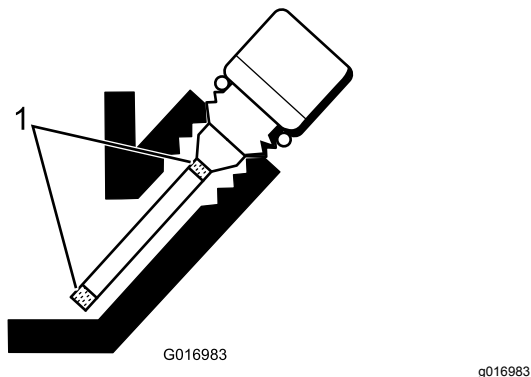

**Figure 29**
1. Park the machine on a level surface and clean the area around the oil-level gauge (Figure 29).
2. At the rear of the machine, place a drain pan under the drain plug (Figure 29). Loosen the drain plug.